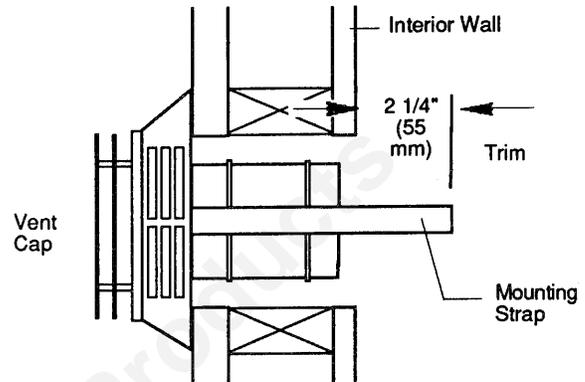

Figure 27. Trim the mounting straps.
Step 2. Trim the Straps. Install the Vinyl Siding Stand-off if applicable. Position the Horizontal Vent Cap within the opening on the outside wall and temporarily secure it in place with one of the wood screws provided. Mark and trim each of the mounting straps to extend no more than 2 1/4" (55mm) beyond the interior wall. See Fig.27. Remove the Vent Cap from the outside wall.